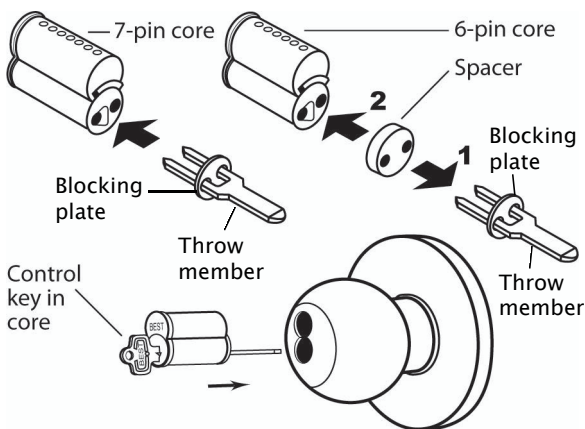

Figure 11 Installing the figure-8 core
For 6-pin core users only: Slide the spacer — supplied with your 6-pin core — over the 7-pin throw member (see Figure 11, top right).
- 1 Install the throw member into the back of the core as shown in Figure 11, top.
- 2 Insert the control key into the core and rotate the key 15 degrees to the right.
- 3 Insert the core and throw member into the knob with the control key as shown in Figure 11, bottom.
- 4 Rotate the control key 15 degrees to the left and withdraw the key.